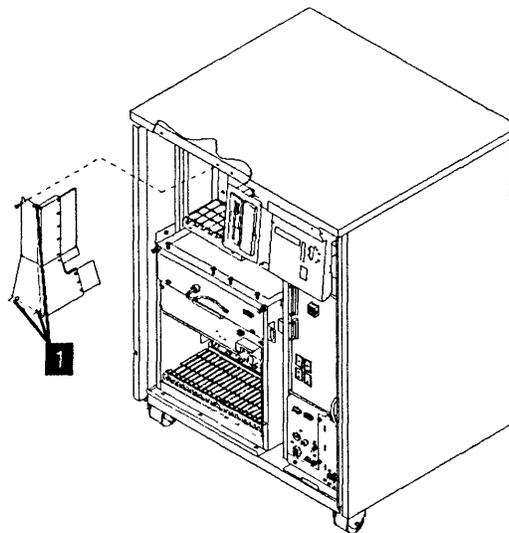

Figure 4-59. MOSS Right Cover
7. Take away the MOSS right cover (3 screws must be removed **1**) Refer to Figure 4-59.